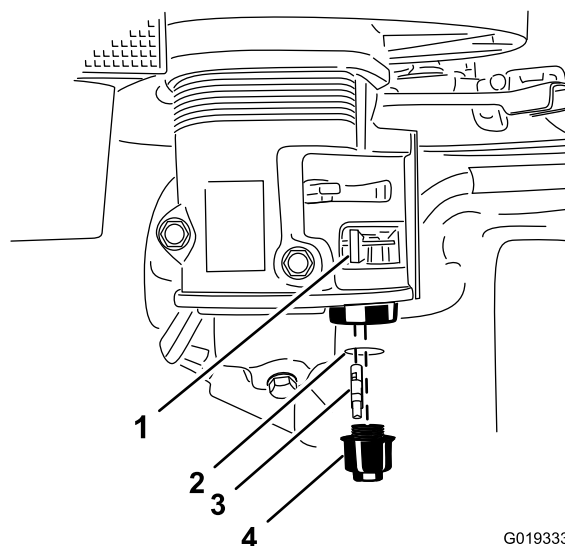

Figure 31
3. Move the lever of the fuel valve to the Off position, all the way to the left (Figure 31).
5. Remove the fuel filter and O-ring (Figure 31).
8. Install the fuel filter in the bottom of the carburetor (Figure 31).